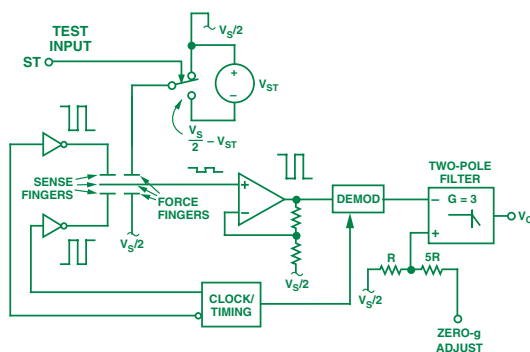

Figure 3. ADXL150 electrical block diagram.
**Circuit Architecture:** As Figure 3 shows, the fixed fingers are driven with antiphase square waves. Unlike the ADXL50, which uses a dc bias between the excitations and the beam as a means of providing a force-balance feedback path, the ADXL150 employs an open-loop architecture. With zero average dc voltage on the beam, the excitation square waves can swing to the power supply rails, with the beam biased at one half the supply voltage. The larger amplitude of the 100-kHz excitation in the ADXL150 results in reduced sensitivity to electronic device noise and is a contributing factor to its improved noise performance.